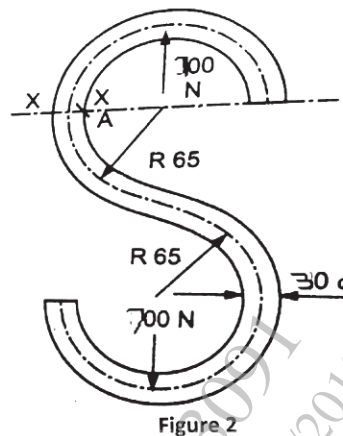

Figure 2
- b)** The figure 2 shows a 'S' hook made from 30 mm diameter rod and subjected to a tensile load 700 N as shown in figure. Determine the stresses in the inner and outer surface of the hook at a section XX. [6]